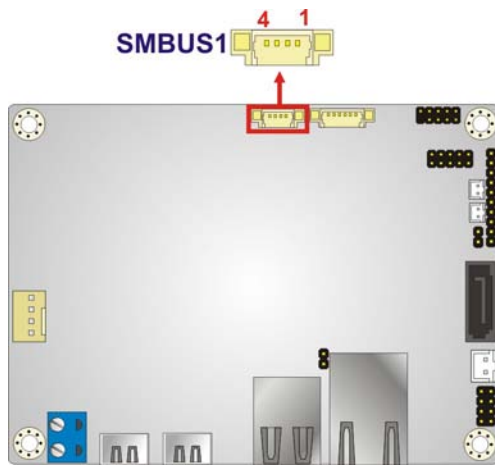

Figure 3-19: SMBus Connector Location
- CN Location: See **Figure 3-19**